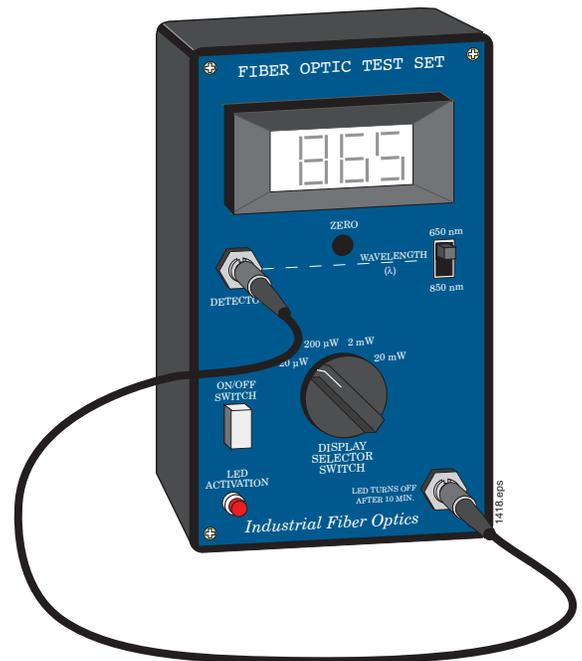

Figure 21. 1-meter fiber cable installed onto the Fiber Optic Test Set to take baseline measurements for characterizing an optical fiber coupler.
5. Attach the other end of the fiber to the Test Set DETECTOR receptacle. Equipment should now look like Figure 21.